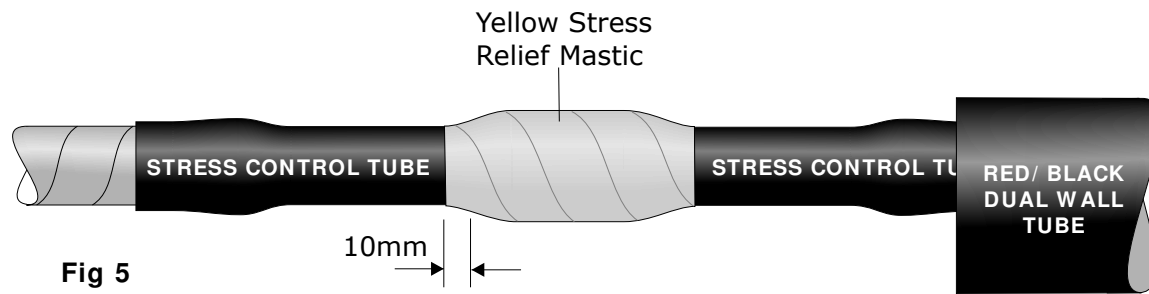

Fig 5
9. Apply the yellow stress relief mastic over the connector area under tension and with a 50% overlap. Extend onto the short stress control tubes by 10mm, as shown in Fig 5.